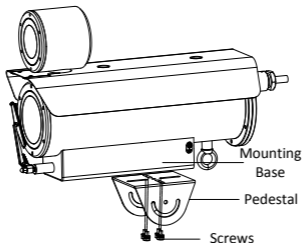

Figure 2-4 Install the Pedestal to Camera
2. Install the pedestal of the PT joint to the mounting base of the camera with four supplied screws as shown in Figure 2-4.